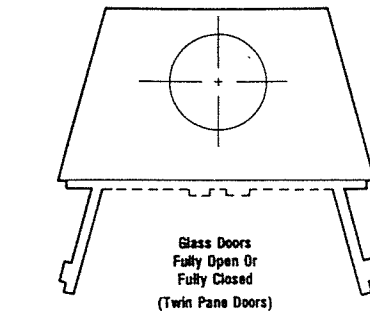

Figure 1
**THE PF-9000 FIREPLACE SHOULD BE OPERATED ONLY WITH BOTH SETS OF DOORS FULLY CLOSED. IF THE DOORS ARE LEFT EITHER OPEN OR PARTLY OPEN, GAS AND FLAME MAY BE DRAWN OUT OF THE FIREPLACE OPENING, CREATING RISKS OF BOTH FIRE AND SMOKE. REFER TO FIGURES 1, 2, 3, 4 and 5 FOR PROPER DOOR OPERATING CONDITIONS.**